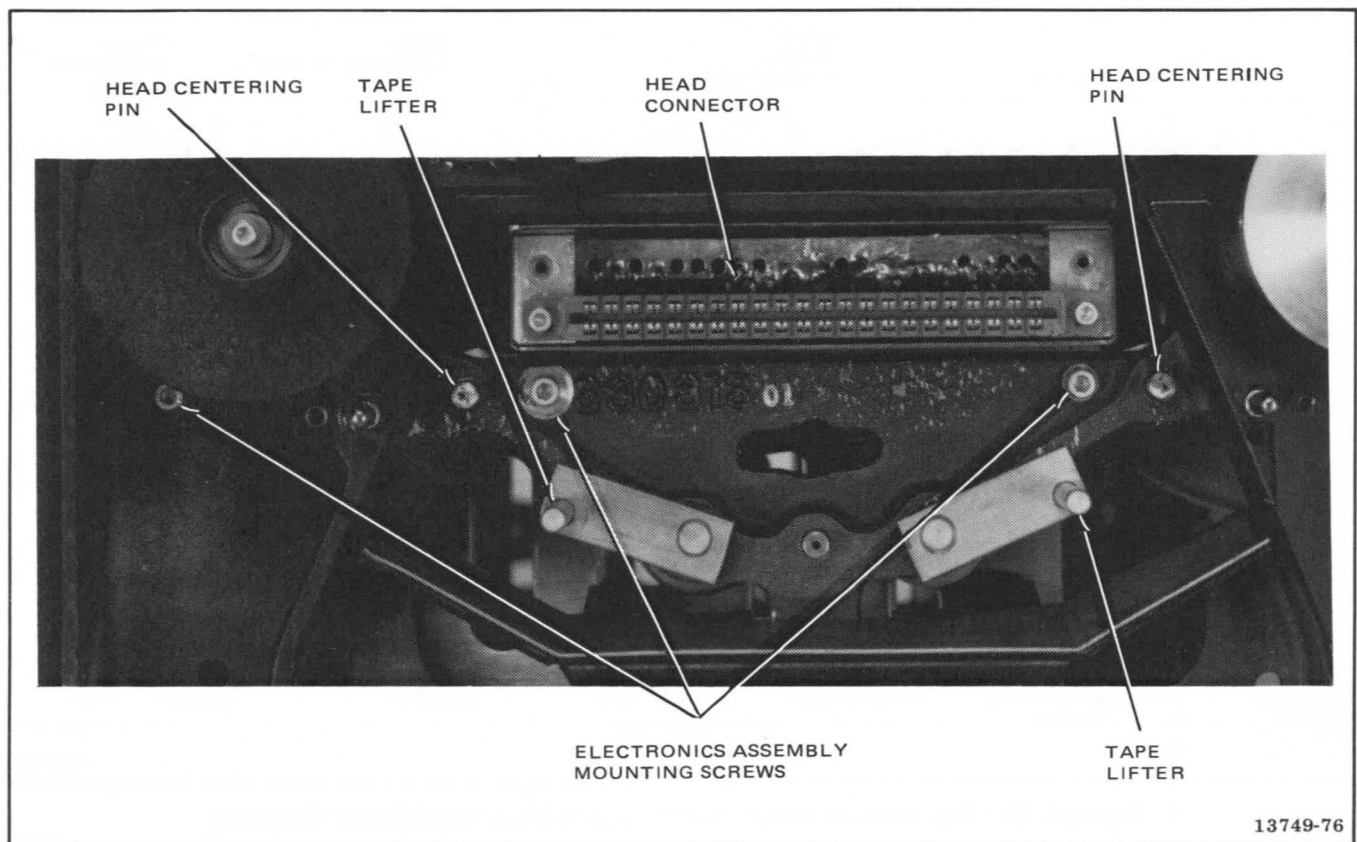

Figure 5-37. Top View of Transport with Head Assembly Removed
1. Carefully lower head assembly over transport to mate the head-centering pins (Figure 5-37) on the transport into the bottom of the head assembly. Lower head assembly onto transport and fully mate the head connector.
- a. Carefully lower head assembly over transport to mate the head centering pins (Figure 5-37) on the transport into the bottom of the head assembly. Lower head assembly onto transport and fully mate the head connector.